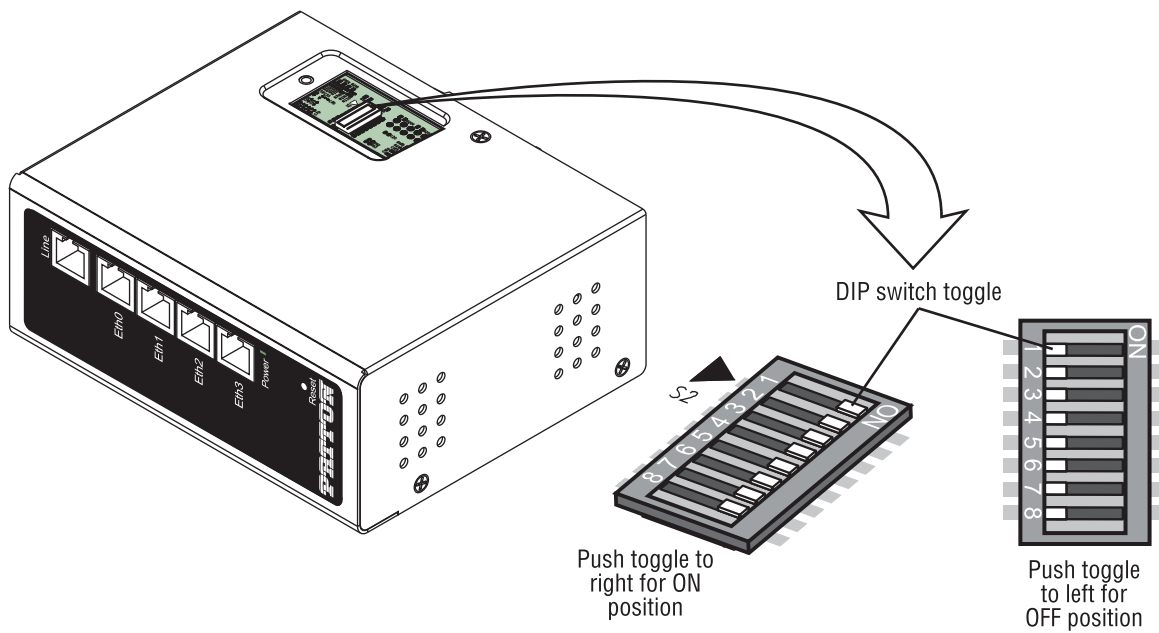

Figure 5. DIP switch S2 orientation
2. figure 5 shows the orientation of the DIP switches in the On and Off positions.
2. Set all DIP switches to off (see figure 5 on page 20).